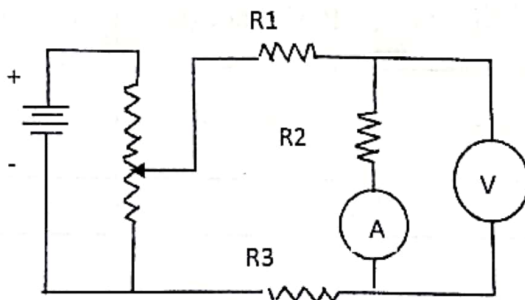

Figure 9.1: Series circuit
- Using the power supply and three resistors given, construct a series circuit as shown in figure 9.1.